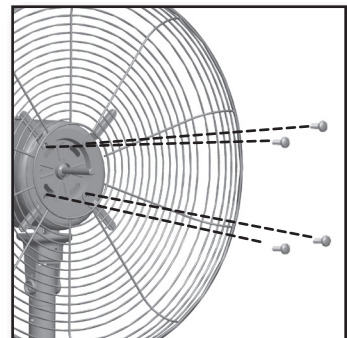

Figure 13
3. To attach the Back Grill to the Motor Housing partially install the four grill mounting screws. Tighten all four screws. Figure 13.